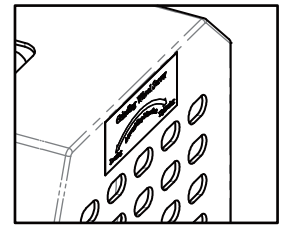

Fig. 12-1
- ① Unplug the power cord and make sure the power is off.
- ② Confirm the screw direction on the grinding wheel cover before changing the grinding wheel. (Fig. 12-1)